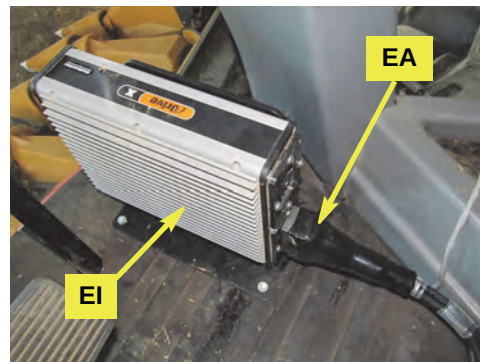

Figure 2a: Installed ECU main cable in bottom socket
- a. Using hardware **WJ** (Figure 2a inset), install the WAS assembly from step 1 on bracket **WK**. Have the wire connector **WB** at the bottom and mount the assembly so that the bends in **WK** will hold the assembly away from the axle when installed at step b (Figure 2a with inset).
Figure 2a with inset: WAS assembly on mounting bracket
- a. Remove the five screws on the left side of the steering column (Figure 2a) and remove the two left-side column cover sections (Figure 2a inset).
Figure 2a with inset: Partial dismantling of the steering column
- a. Connect cable **EA** to the ECU **EI** using an Allen wrench to secure the cable to the ECU. The **EA** connector will fit only the ECU socket that is in line with the power and communications indicators at the opposite end of the ECU. Connect **EA** to the bottom socket on **EI** in this installation (Figure 2a).